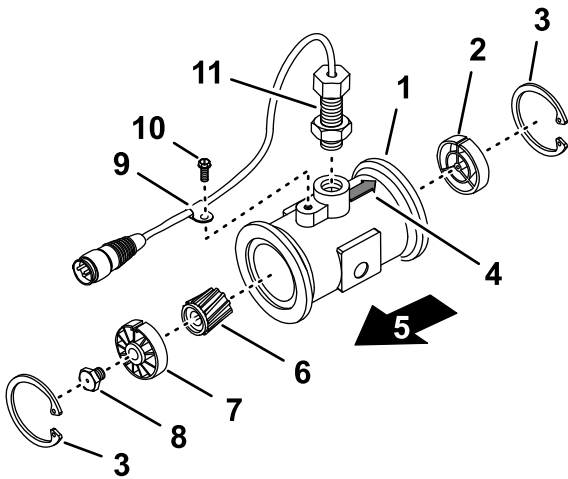

Figure 122
3. Remove the retainer ring on the upstream side (Figure 122).